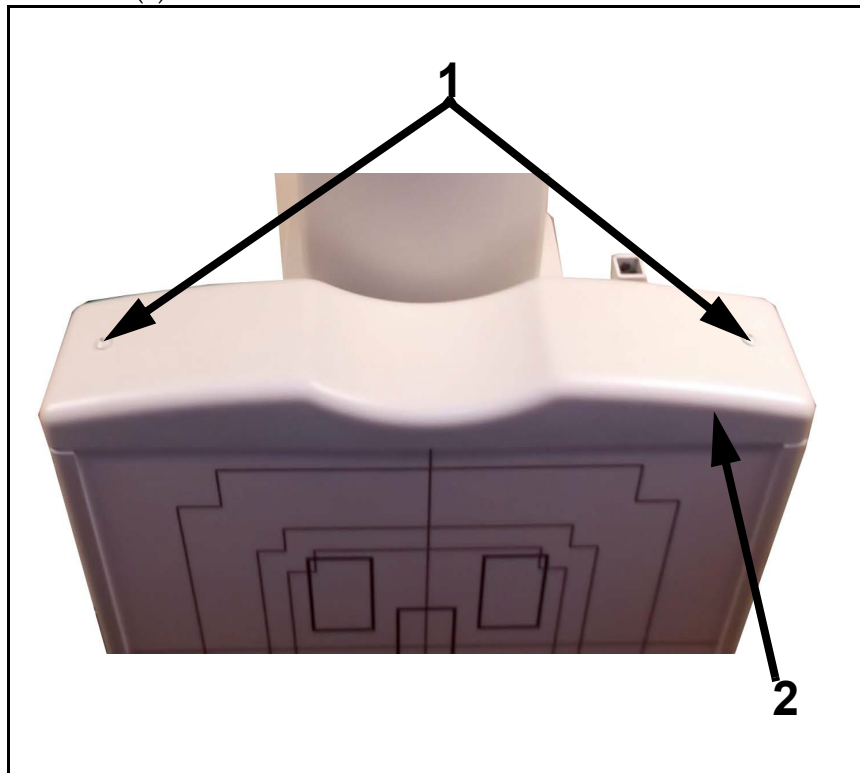

Figure E-1. Top Cover Removal
- 1 Unscrew the top cover screws (1 in Figure E-1) and remove top cover (2).